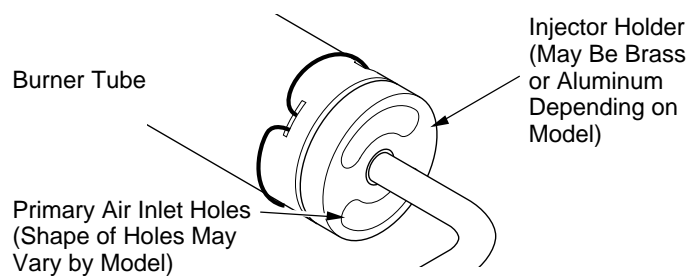

Figure 20 - Injector Holder On Outlet Burner Tube
2. Inspect burner, pilot, and primary air inlet holes on injector holder for dust and dirt (see Figure 20).